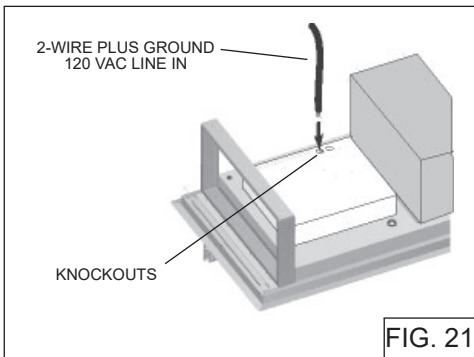

FIG. 21
2. Run 2-wire plus ground, 120 VAC electrical power cable to the $\frac{3}{4}$ " knockout located on the back of the hood. Fig. 21.